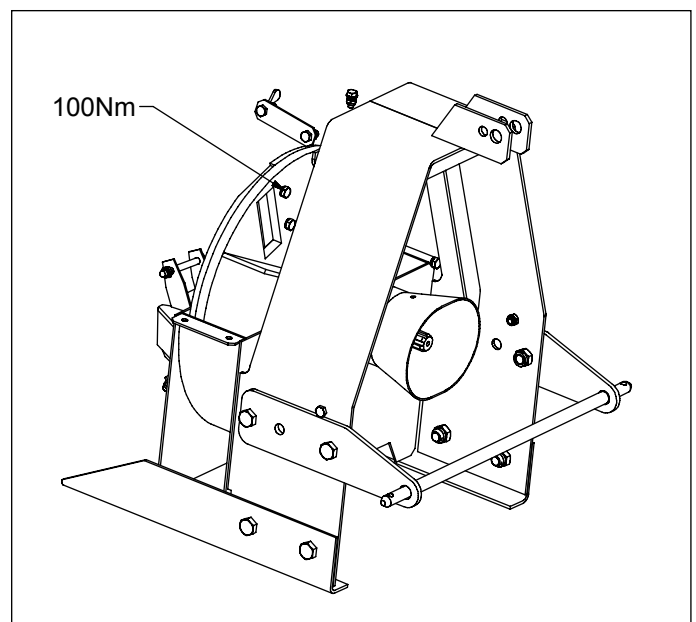

Fig 12. Removing the knife fastening bolts
1. Remove the knife fastening bolts (M12). Turn the wrench in such a way that your hands would not hit the knife if the wrench should slip. Fig 12.